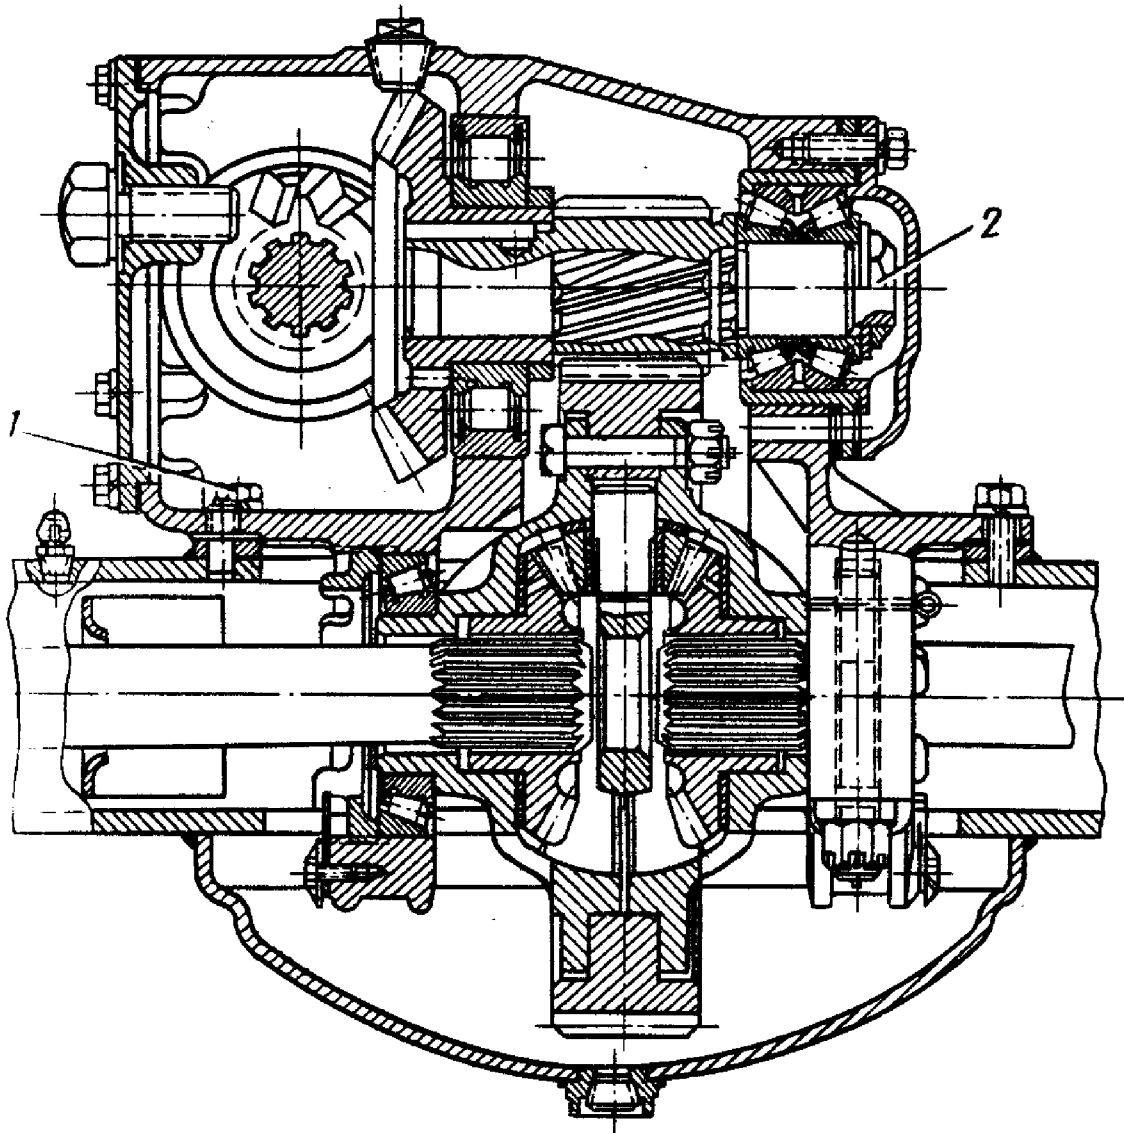

FIG.26. AXLE DRIVE OF ЗИЛ-131 TRUCK
18. Tighten all the bolts fastening the reduction gear of the driving axles (on the 3M1-131 truck) and two bolts 1 (Fig.26) located inside the casing. The tightening torque should be within 9 to 11 kgf/m.